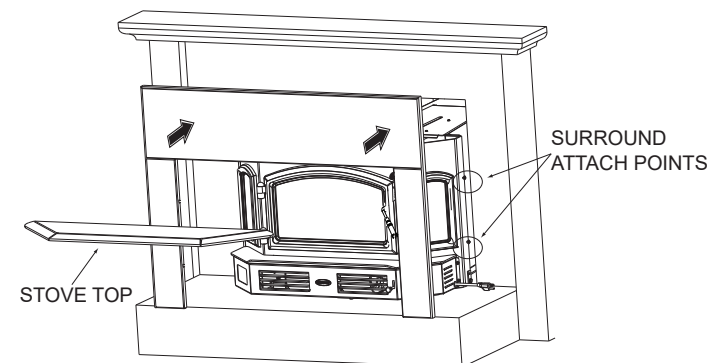

Figure 19.5
6. Install the surround set and trim set to the outer can. Place the hook in the surround sides over the surround attachment screws, 2 on each side (**Figure 19.5**).